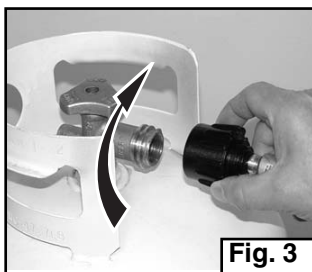

Fig. 3
- Attach hose to cylinder. (Fig. 3)